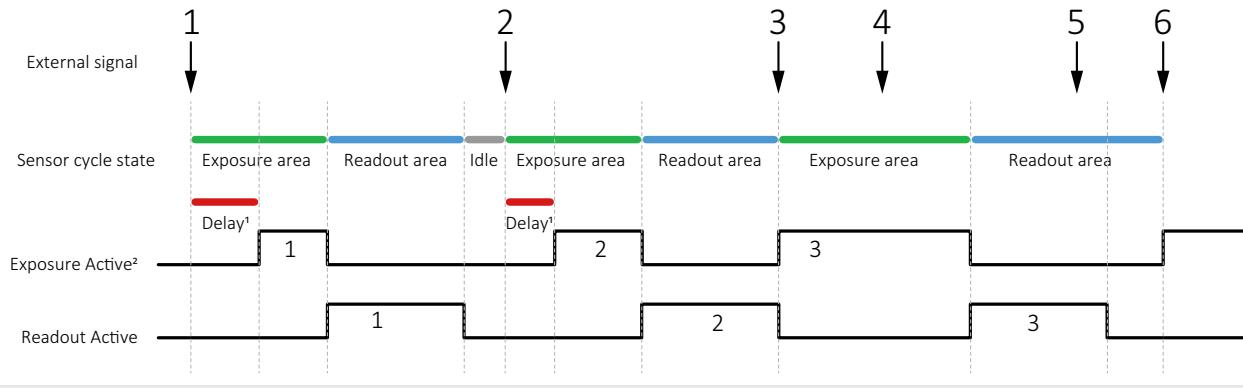

Figure 89: Triggering rolling shutter (RS) cameras
This section describes triggering behavior for **1500 C-210m/c** and **C-500m/c**, and for **1800 C-1240m/c** and **C-2050m/c**. Figure 89 shows how an external signal triggers exposure and readout for cameras with rolling shutter (RS) sensors. Like for global shutter (GS) sensors, readout has a constant duration, acquisition must be active to enable exposure, the end of exposure starts readout.
The signals displayed in Figure 89 represent logical states, not user controls.